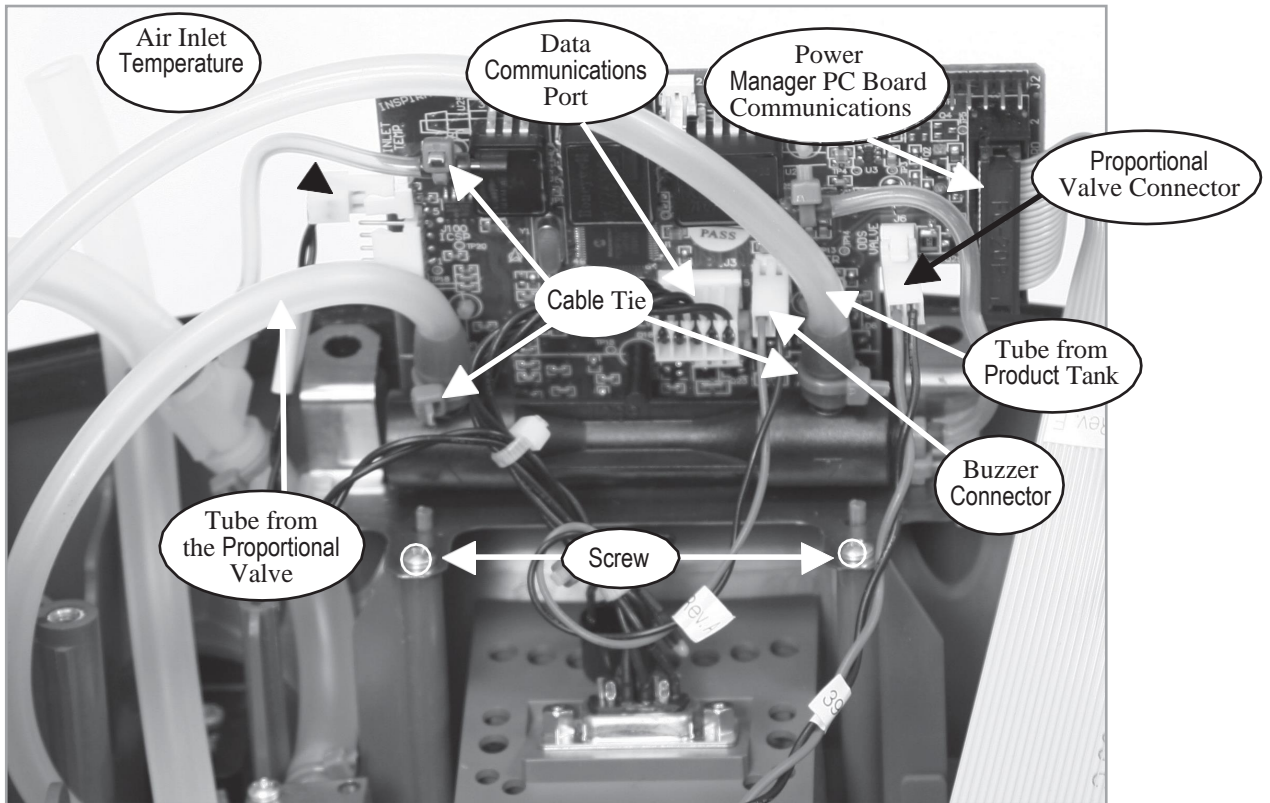
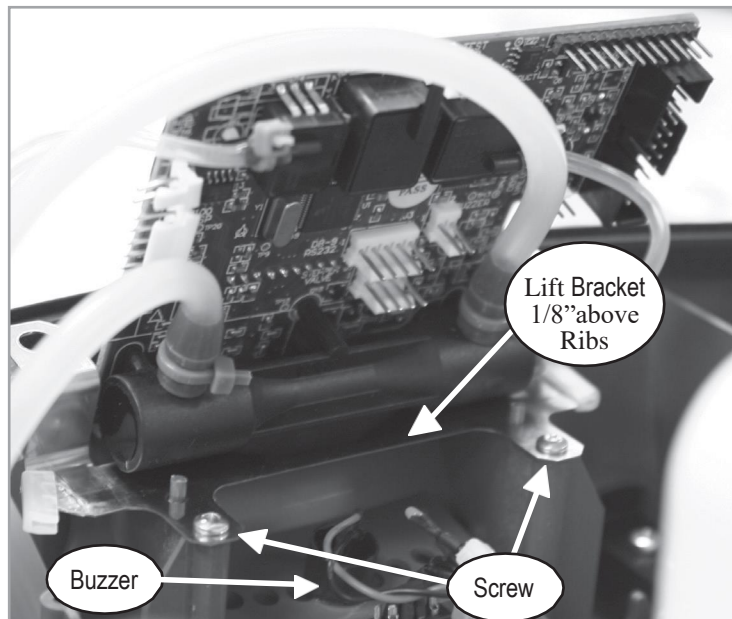

Figure 42: Control Board Removal (ATF Module not shown for clarity).
Figure 43: Control Board Installation.
2. Remove the 2 screws (M3x10 Plastic Screw, P/N 6950-310-SEQ) holding the Control Board Assembly to the Unit Case as shown in Figure 42.
3. Lift the Control Board Assembly and disconnect the Inlet Air Temperature, Data Communications Port, Power Manager PC Board Communications, Proportional Valve wire harness, and Buzzer wire harnesses as shown in Figure 42.
4. Lift the Control Board out of the Unit. Cut the green cable tie to the silicone tube that is connected to the sensor as shown in Figure 42. Disconnect the silicone tube that is attached to the sensor. Cut the green cable ties to the silicone tubes that are connected to the flow tube as shown in Figure 42. Disconnect the silicone tubes that are attached to the flow tube.
7. To install a new Control Board Assembly, cut the cable tie used to pinch the silicone tube coming from the product tank. Attach this tube and the tubes from the Proportional Valve and from the Product Tank to the flow tube as shown in Figure 42. Secure with a cable tie. Connect the silicone tube to the sensor as shown in Figure 42. Secure with a cable tie. Place the 2 screws in the sheet metal bracket as shown in Figure 43. Inspect the tubing to ensure the tubing is not kinked.
8. Lower the Control Board Assembly into the Unit Case only to where the aligning pins go through the sheet metal bracket; make sure the sheet metal bracket is 1/8" above the supporting ribs – this will ensure the 2 screws stay in the bracket and do not fall in the unit case as shown in Figure 43. Start the 2 screws by turning them 2 times into the unit case. After starting both screws, lower the Control Board Assembly onto the supporting ribs; tighten the 2 screws to the unit case.
9. Connect the Inlet Air Temperature, Data Communications Port, Power Manager PC Board Communications, Proportional Valve wire harness and Buzzer wire (3 LED model), or Speaker wire (2 LED model) harnesses as shown on Figure 42.